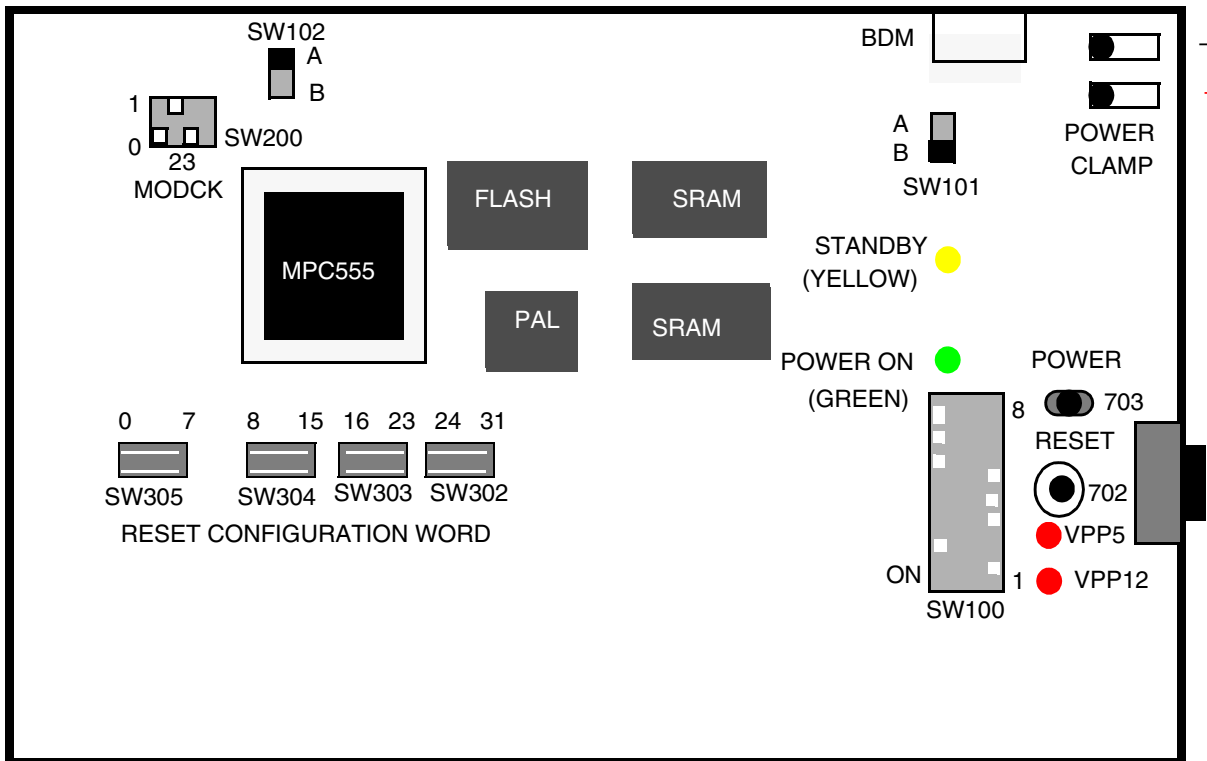

Figure 1 Evaluation Board Layout
Figure 1 illustrates how the evaluation board is laid out.
are in their correct positions before turning on the board. Use the simplified MPC555 EVB circuit diagram in **Figure 1** to find the appropriate switch locations.
1. Connect the power leads to the EVB using the two clamp connectors shown in **Figure 1** (in the top right hand corner of the EVB). Be sure to observe voltage polarity specifications.